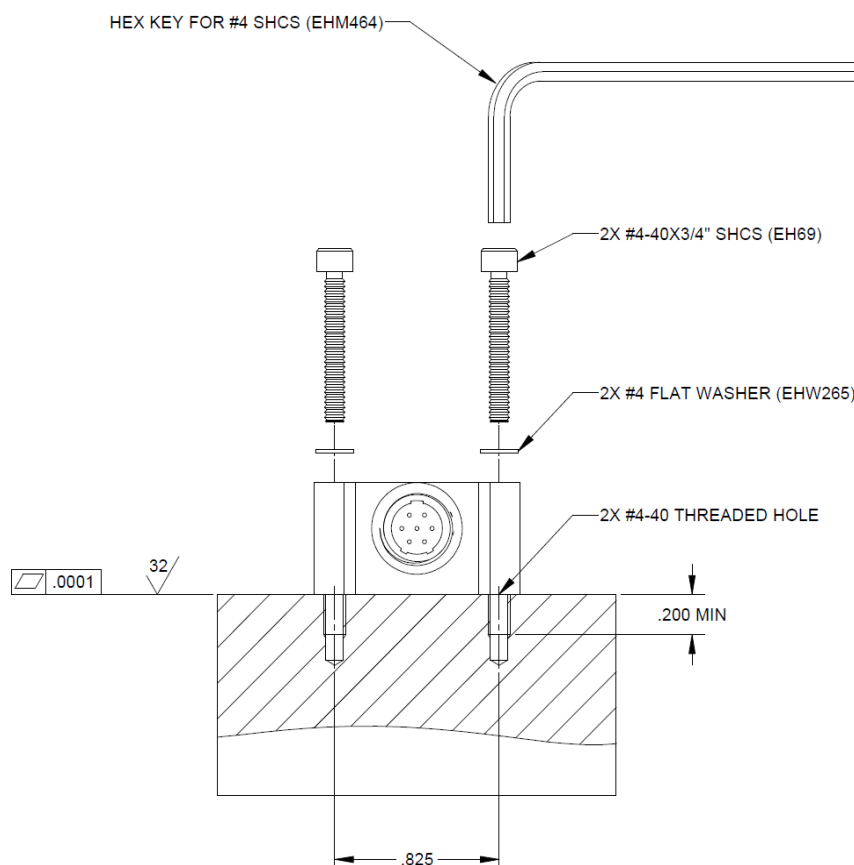

Figure 2. Installation of the model 7298 hermetic VC triaxial accelerometer.
1. Refer to Figure 2 for mounting surface preparation. The mounting surface should be clean and free of burrs. Two #4-40 threaded holes, 0.2 inch minimum depth should be spaced 0.825 inches (20.96 mm)